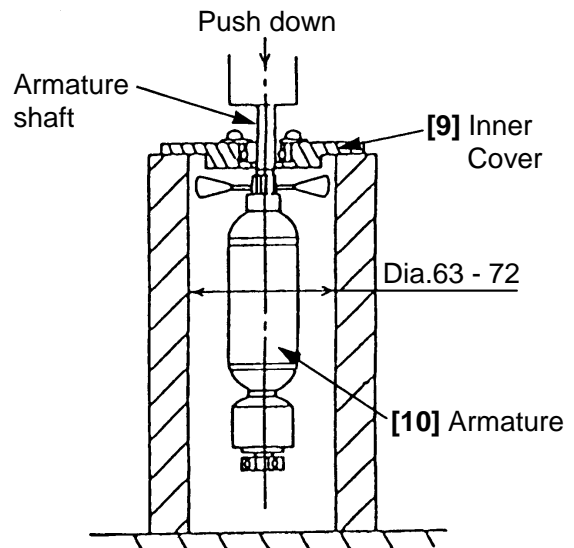

Fig. 3
- (1) Loosen the M5 x 16 Machine Screw **[26]** and remove Wheel Guard (A) Ass'y **[28]**.
- (2) Remove the Brush Caps **[40]**, and take out the Carbon Brushes **[41]**.
- (3) Loosen the D5 x 25 Tapping Screws **[1]**, and remove the Gear Cover Ass'y **[4]**. Separate the Inner Cover **[9]** from the Housing Ass'y **[36]** with a slotted-head screwdriver, and remove the Inner Cover **[9]** together with the Armature **[10]**.
- (4) Holding the Armature **[10]**, loosen the M7 Special Nut **[5]** with a wrench, and remove the Pinion **[6]**.
- (5) Support the Inner Cover **[9]** with a tubular jig (inner diameter 63-72 mm is recommended), and push down on the armature shaft with a hand press to remove the Armature **[10]**. (see Fig. 3)